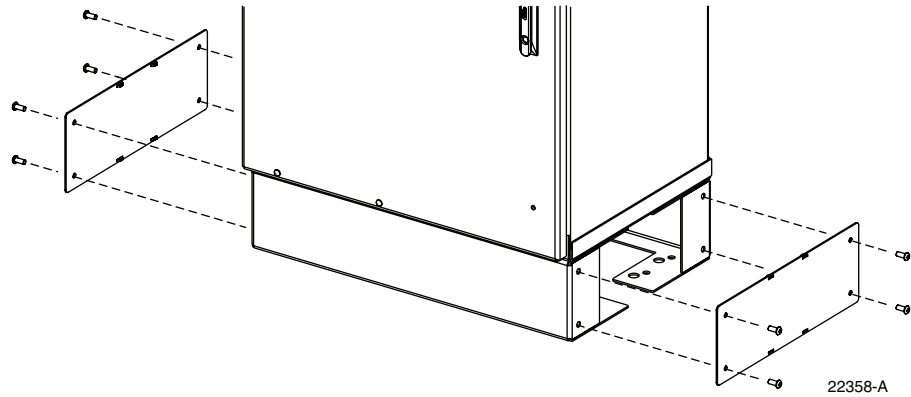

Figure 6. Removing Side Access Covers From Ground Spacer/Riser
1. Use a 3/16-inch hex-key to remove the screws that secure the access covers to the left and right sides of the cabinet ground spacer/riser as shown in Figure 6.